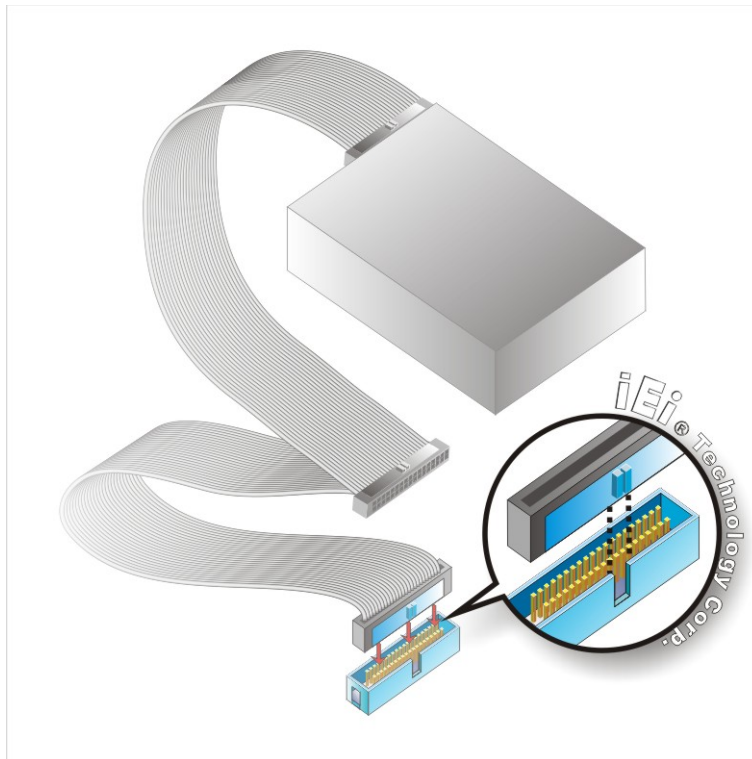

Figure 5-5: IDE Cable Connection
Step 2: Insert the connector. Connect the IDE cable connector to the onboard connector. See Figure 5-5. A key on the front of the cable connector ensures it can only be inserted in one direction.